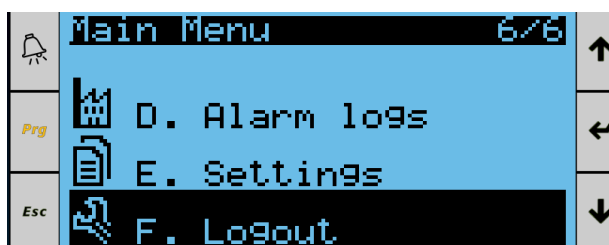

Figure 75. Main Menu, Page 2
16. Return to the Main Menu using the “Esc” button and select **Settings** shown in **Figure 75** below.